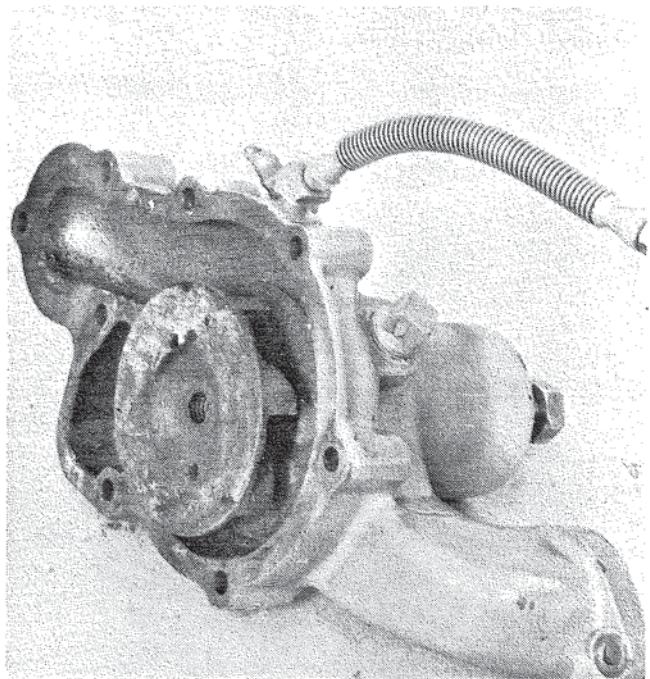

Figure 14. Installing Impeller.
4. Press shaft assembly into bore of pump body and install impeller. Figure 14.